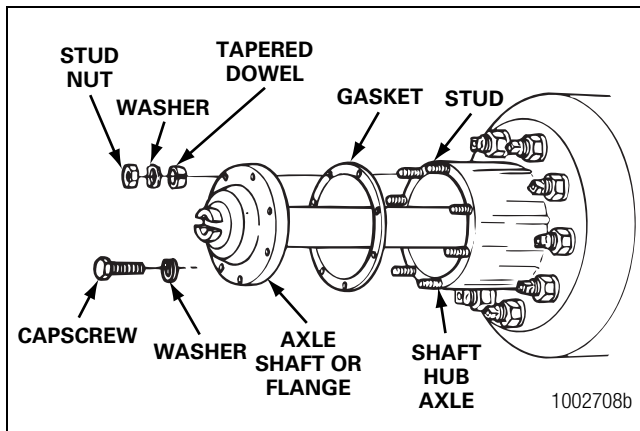

Figure 3.2
4. Remove the tapered dowels and separate the axle shafts from the main axle hub assembly. Figure 3.2.
4. Remove the tapered dowels and separate the axle shaft from the main axle hub assembly. Figure 3.2.